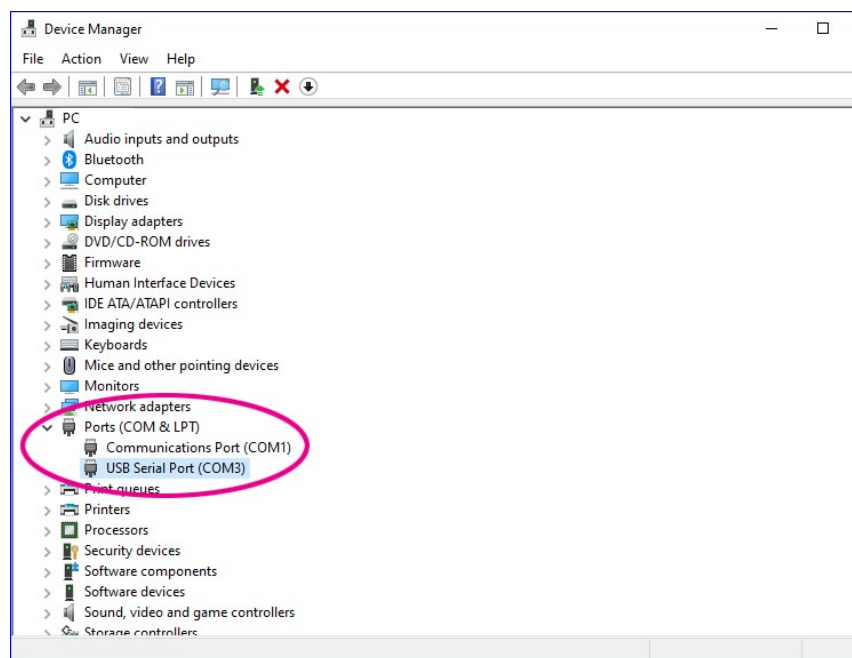

Figure 9 - Determine the USB Serial port
2. Double-click Ports (COM & LPT) to determine the port your gauge is connected through. In the example below (Figure 9), the COM3 USB Serial Port is used.